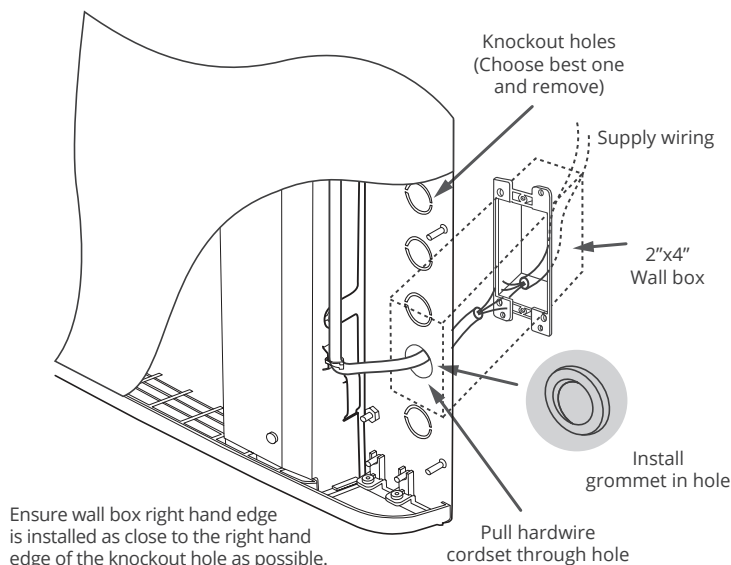

Fig. 9
- 1 Determine the best wall mounting location of the Envi Heater in a room. If the proper electrical wiring and wall box already exists at a suitable height on the wall, then choose a suitable knock-out hole on the back of the heater (5 holes to choose from) and position the heater on the wall so that the knockout hole lines up with the electrical wall box. Refer to Fig. 9 for more details.
- 3 Remove the Envi Heater from the wall to prep for the hardwiring steps. Pull the cordset through the knockout hole using pliers and install the supplied protection grommet. Strip wires to expose 5/8" of copper on all 3 of the cordset wires (see Fig. 9).